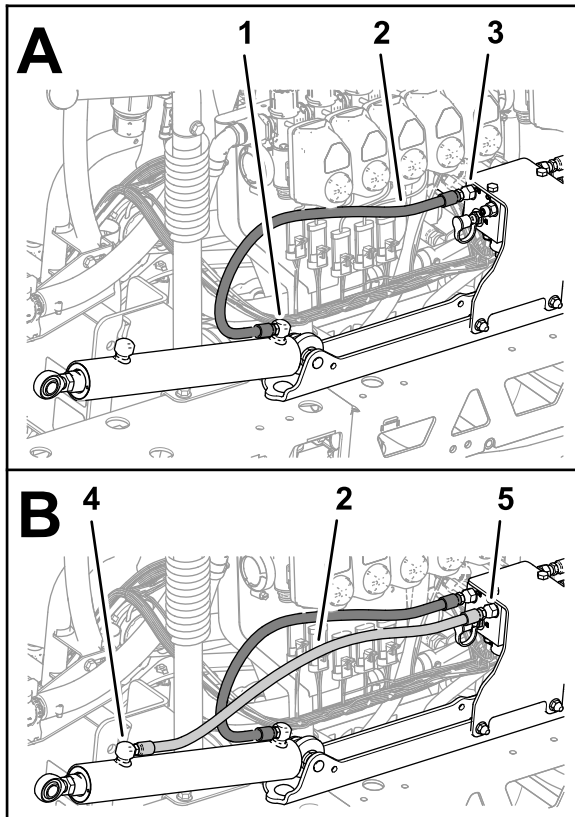
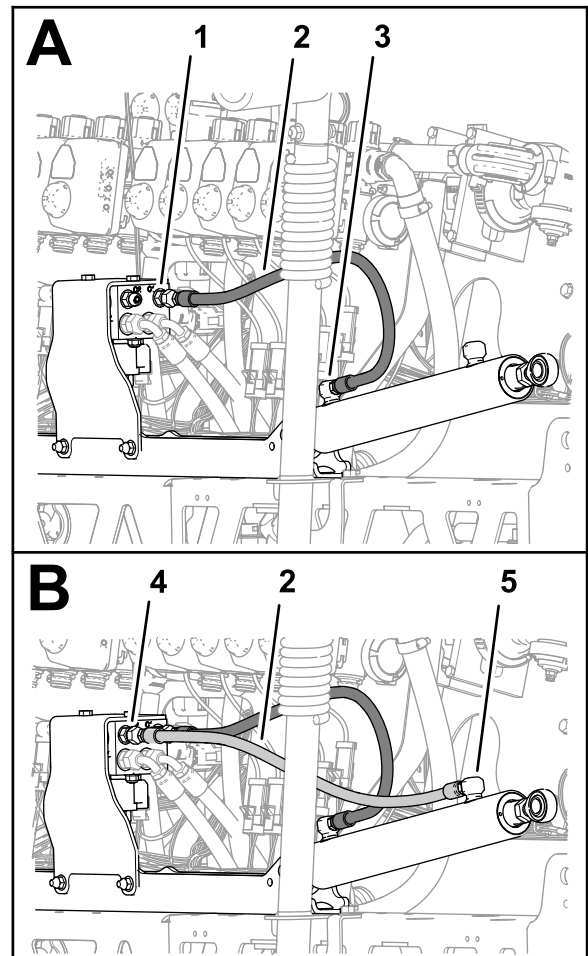

Figure 118
Figure 119
- Loosely assemble a new hydraulic hose (1/4 x 24-3/4 inches) between the extend port of the left boom-lift cylinder and port C3 of the boom-lift manifold (Figure 118).
- Loosely assemble a new hydraulic hose (1/4 x 24-3/4 inches) between the retract port of the left boom-lift cylinder and port C4 of the boom-lift manifold (Figure 118).
- Loosely assemble a new hydraulic hose (1/4 x 24-3/4 inches) between the extend port of the right boom-lift cylinder and port C1 of the boom-lift manifold (Figure 119).
- Loosely assemble a new hydraulic hose (1/4 x 24-3/4 inches) between the retract port of the right boom-lift cylinder and port C2 of the boom-lift manifold (Figure 119).
- Torque the hose fittings at the extend and retract ports of the lift cylinders (Figure 118 and Figure 119) to 21 to 26 N·m (15 to 19 ft-lb).
- Torque the swivel nuts of the hoses at the boom-lift manifold (Figure 118 and Figure 119) to 24 to 30 N·m (17 to 22 ft-lb).